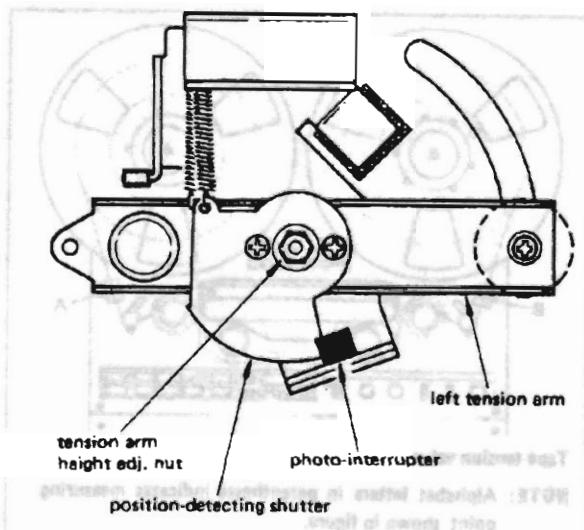

Fig. 2-11
- Stop left (right) inertia roller's rotation by hand. Adjust by turning the left (right) tension arm height adjusting nut (refer to Fig. 2-11) so that the tape moves in the center of the inertia roller.